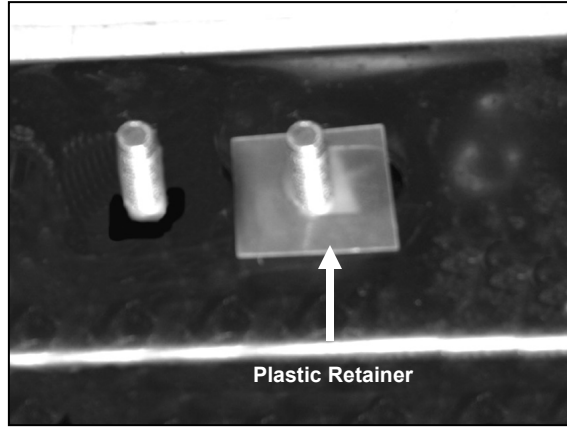

Figure 3
5. Once you have hand tightened a Nylock Nut on the shorter end, proceed to attach a Plastic Retainer on the longer threaded end of U-Bolt (Figure 3). Once the Plastic Retainer is fully installed, remove Nylock Nut.